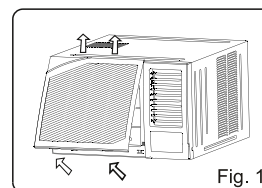

Fig. 1
2. Hold the slot under the front panel, then uplift it outwards, and remove the front panel(See Fig. 1)